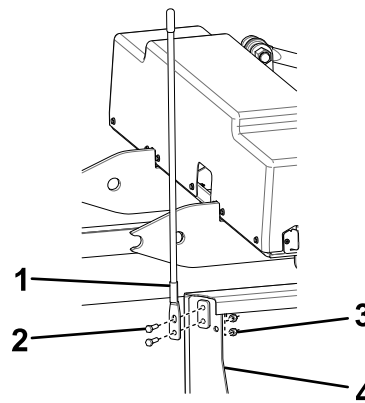

Figure 12
- Attach the blade guides to the wing blade using 4 bolts (5/16 x 1 inch) and locknuts (Figure 12).